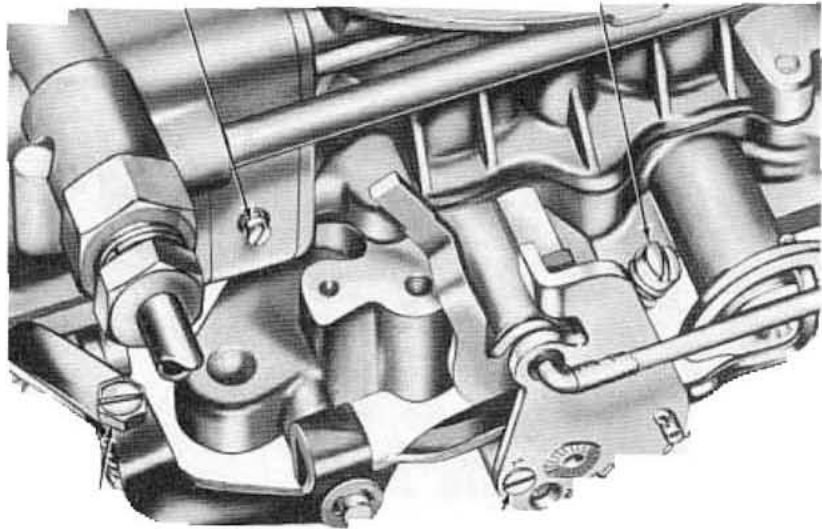

Fig. 22—Accelerating Pump, Idle Fuel Mixture and Idle (Hot Engine) Speed Adjustments—Holley Carburetors
To satisfy acceleration requirements in various climates, the accelerating pump discharge can be adjusted. The bottom hole (No. 2) in the cam provides a maximum pump discharge for extreme cold weather and the top hole (No. 1) provides the minimum pump discharge for warm weather operation (Fig. 22).
The idle fuel mixture is controlled by the idle fuel mixture adjusting screws (needles) located in the primary metering blocks of the carburetors (Figs. 22, 23 or 24). The idle (hot engine) speed adjusting screw location for each carburetor is shown in Fig. 22.
speed adjusting screw (Fig. 22) equally and alternately. Turn the screws inward to increase the speed and outward to decrease the speed. Be sure the fast idle screw is not touching the fast idle cam when performing this adjustment.
2. Adjust the idle fuel mixture by turning each idle mixture screw inward (Figs. 22, 23, or 24) evenly and alternately, starting with the front carburetor and finishing with the rear carburetor, until the engine rpm begins to drop (due to the lean mixture). Turn each screw outward until the engine rpm begins to drop (due to the rich mixture); then turn each screw inward for maximum engine rpm and smoothness. Always favor a slightly rich idle fuel mixture. Final adjustment of the idle fuel mixture screws should be within $\frac{1}{4}$ turn of each other.